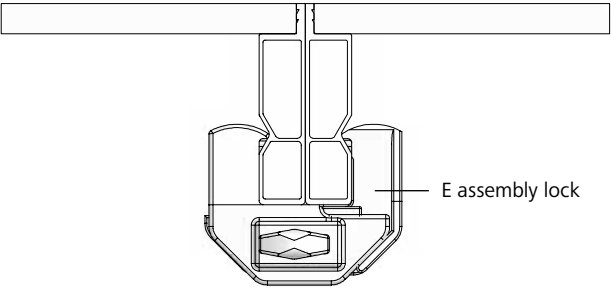

Fig. 12.3
- With single groove (until 2006) using the E assembly lock (Fig. 12.3).